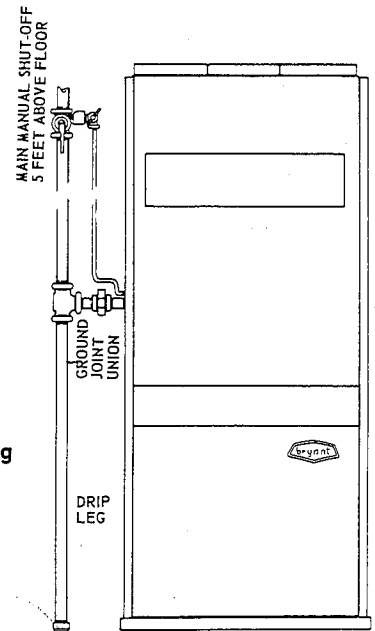

Figure 5 - Gas Piping
3. Install the main manual gas shut-off valve in the supply line five feet above the floor. Install the valve (supplied) so that the pilot manual cock is on the inlet side of the valve. (See Figure 5.)
Sizes 50, 80, 100 & 125 using natural gas are equipped with a factory-installed combination pressure regulator and main shut off - pilot supply shut off valve. This control is inside the furnace cabinet. A separate manual shut-off valve is not supplied with these furnaces. Consult local codes regarding the need for placing a separate shut-off valve outside the furnace cabinet as shown in Figure 5.